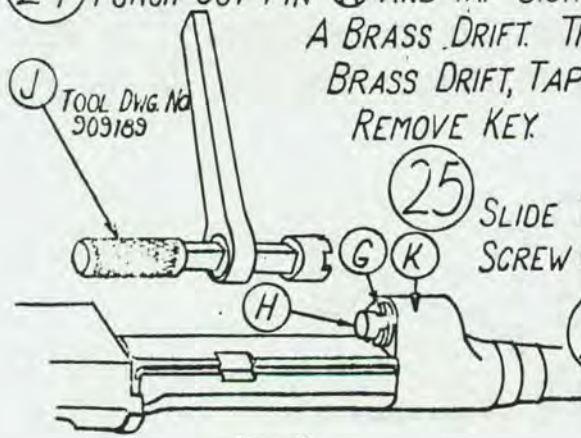

FIG. 2
26 THE NUT (G) HOLDING THE PISTON (H) IS STAKED. USE TOOL (J), FIG. 2, ON NUT (G). PISTON (H) SLIDES OUT OF GAS CYLINDER (K).